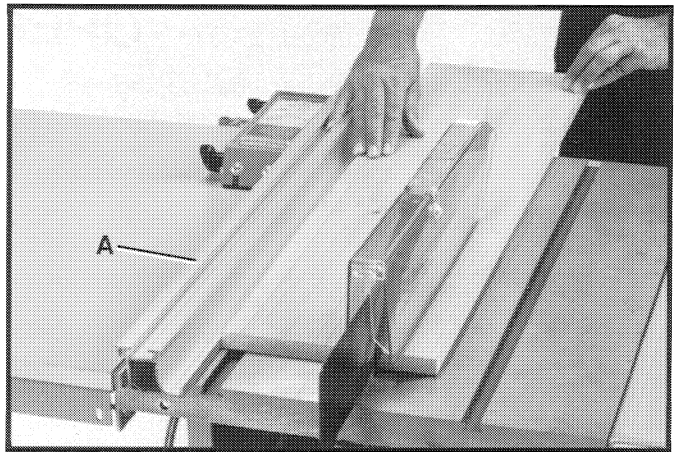

Fig. 85
Ripping is the operation of making a lengthwise cut through a board, as shown in Fig. 85, and the rip fence (A) is used to position and guide the work. One edge of the work rides against the rip fence while the flat side of the board rests on the table. Since the work is pushed along the fence, it must have a straight edge and make solid contact with the table. The saw blade guard must be used. On Delta saws, the guard has anti-kickback fingers to prevent kickback and a splitter to prevent the saw kerf from closing and binding the blade.
Never stand in the line of the saw cut when ripping. Hold the work with both hands and push it along the fence and into the saw blade as shown in Fig. 85. The work can then be fed through the saw blade with one or two hands. After the work is beyond the saw blade and anti-kickback fingers, the hand is removed from the work. When this is done the work will either stay on the table, tilt up slightly and be caught by the end of the rear guard or slide off the table to the floor. Alternately, the feed can continue to the end of the table, after which the work is lifted and brought along the outside edge of the fence. **The cut-off stock remains on the table and is not touched with the hands until the saw blade is stopped, unless it is a large piece allowing safe removal.** When ripping boards longer than three feet, it is recommended that a work support be used at the rear of the saw to keep the workpiece from falling off the saw table.